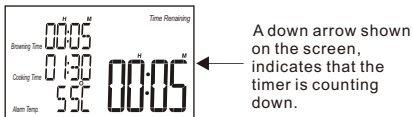

Fig.2A – Down arrow
- will be on (alarm and flashing for 30 seconds), and the browning time will start to count up (the down arrow in Fig.2A will change to an up arrow which indicates that the timer is counting up). The max count-up time is 4 hours once the browning timer has completed. To stop the alarm on the transmitter and receiver, press the START/STOP button on the transmitter. Note: The thermometer will keep alarming (5 seconds) and the backlight will keep flashing (5 seconds) every minute.